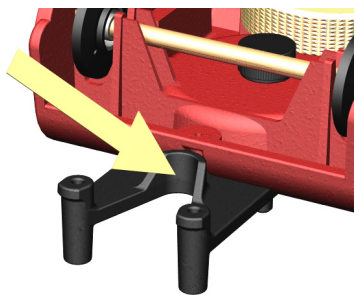

Figure 10: "V" slot on the bumper, where clay should be inserted to form an inelastic bumper.
- For inelastic collisions, remove the rubber band and put a small amount of Claytoon clay in the "V" slot on the bumper. (See Figure 10.)